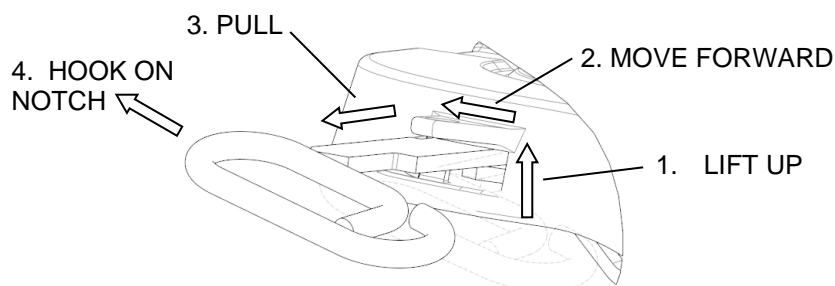

FIGURE 4A
- For Standard Handle: Lift release handle up into wide slot and move forward while pulling handle out (see figure 4A). Lock handle in open position using notch provided.